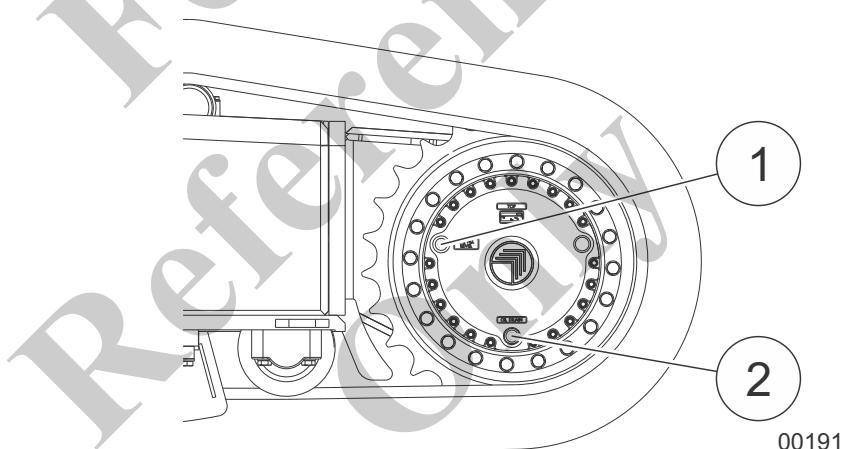

Fig. 30 Lubricating points (1) and (2) of the travel drive
1	Park the machine on an even and hard surface so the lubricating points (1) and (2) are as shown in Fig. 30.